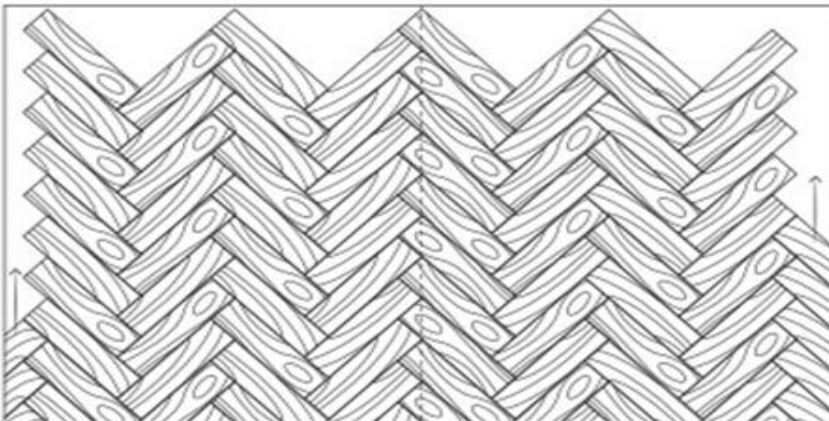

Figure 4
9. When no more rows can be fitted in the room, start measuring and cutting the left-over pieces on all four sides. Our recommended method: first fill up the floor area to the left and right of the already installed flooring area, then continue with the leading and trailing edges. (Figure 4)